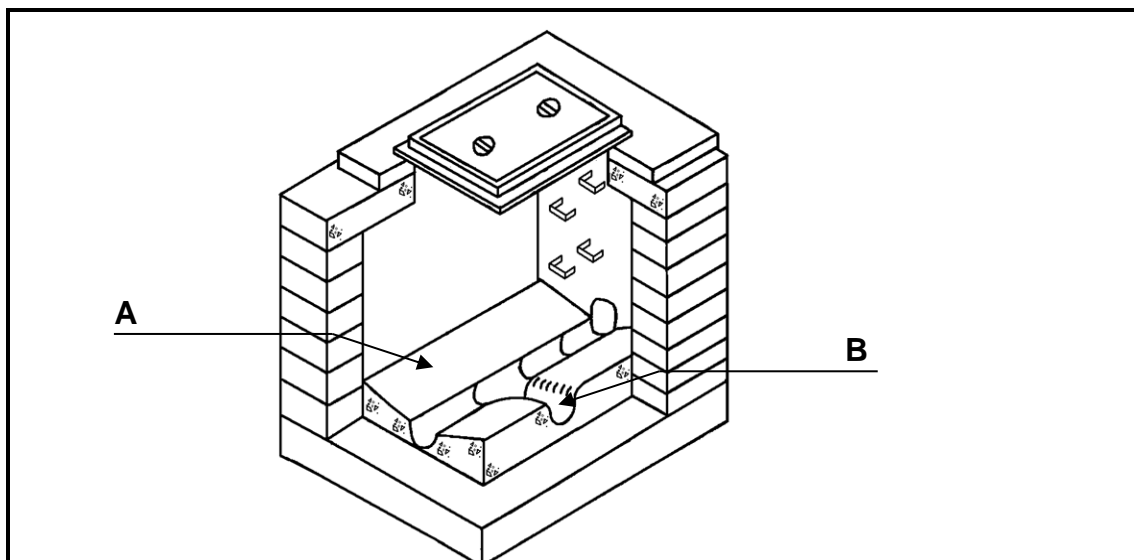

FIGURE 3.6
- The difference between the ...3.5.1 ... potential of the two metals. (1)
- Contact resistance at the ...3.5.2 ... between the two metals. (1)
- Electrical resistance of the ...3.5.3 ... solution. (1)
- The presence of a ...3.5.4 ... film. (1)
- 3.6 Answer the following questions with regard to the structure in FIGURE 3.6.